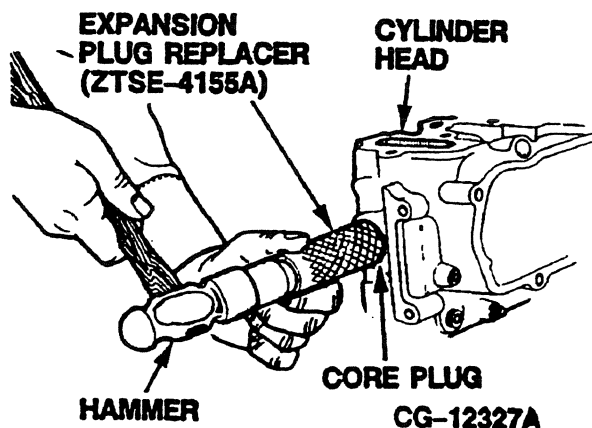

Figure 3.26. Installing Cylinder Head Core Plugs
2. Use the expansion plug replacer (ZTSE-4155A) and a hammer as shown in Figure 3.26.